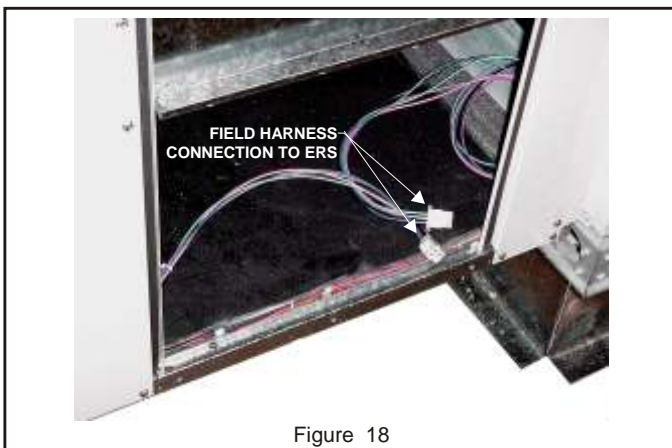
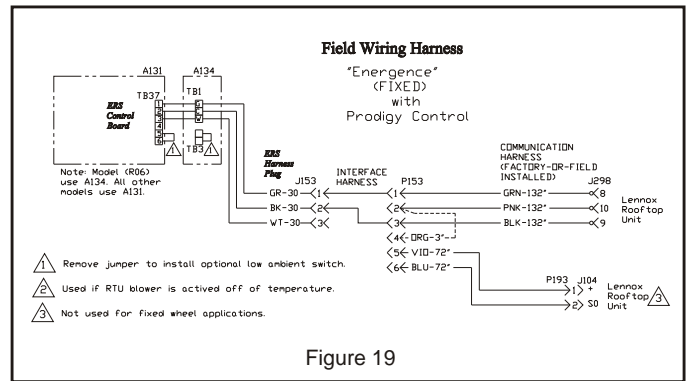

Figure 18
Figure 19
11. Remove the control access panel and locate the 3-pin connector P153 wiring harness that was previously routed into the return air of the rooftop unit. Plug the harness connector P153 into the connector J153 located at the bottom of the access door inside the ERS. See **Figure 18** and **Figure 19**.